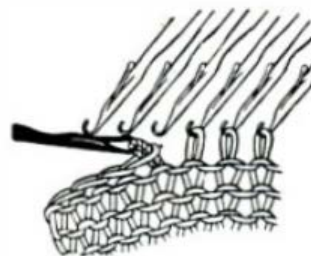

Fig. 73
4. Place yarn in the hook of the open latch and pull yarn through both stitches, this leaves one loop in the hook of your latch tool. Continue to take off one stitch at a time. (See Fig. 73)
- b. Using the 3 needle transfer tool, transfer all stitches inward towards, and onto the empty needle. (See Fig. 73)